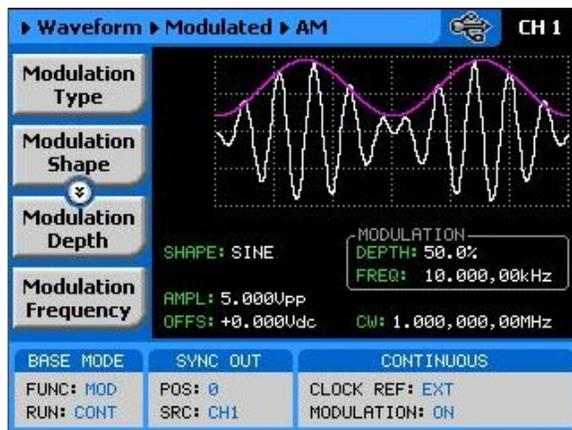

Figure 3-55, AM Menus
The AM function enables amplitude modulation of a carrier waveform (CW). The carrier waveform is sinewave and it is being modulated by an internal waveform, normally referred to as envelop waveform. The envelop waveform can be selected from sine, triangle square or ramp shapes. When AM is selected, the menus that are associated with AM will be accessible. These are shown in Figure 3-55.